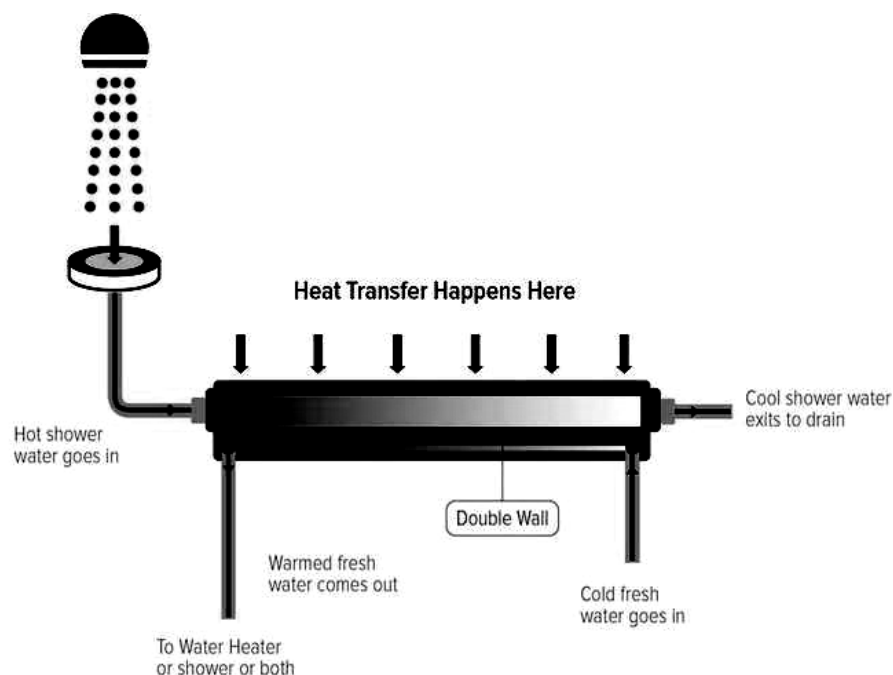

Fig. 2. Process of drain water heat recovery [6]
**Drain water heat recovery systems.** Selecting of the installation method is a compromise between the various requirements relating to energy efficiency and performance of the installation. The big advantage for the application of these systems is application in the new buildings. Process of drain water heat recovery system is depicted on Fig. 2.
- Preheat of cold water for immediate consumption – Fig. 2